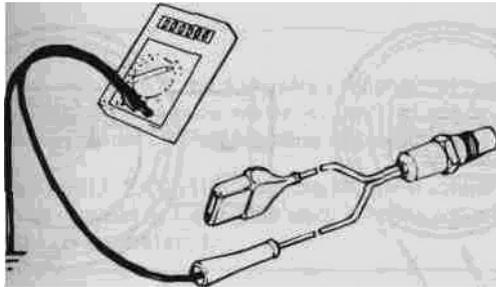

Fig. 21. Oxygen sensor output voltage being checked (shown schematically). Sensor should be installed and the engine should be running,
2. Connect the positive lead of a voltmeter to the black wire coming from the sensor and connect the negative meter lead to chassis ground. See Fig. 21. Start the car and let it idle. The oxygen sensor should start to produce a fluctuating voltage within a short period.